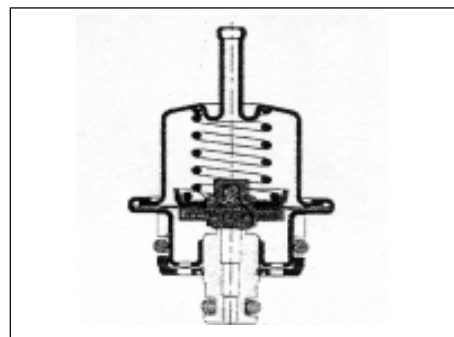

Figure 3-3
3. The fuel oil pressure regulator (DR) (see Figure 3-3).